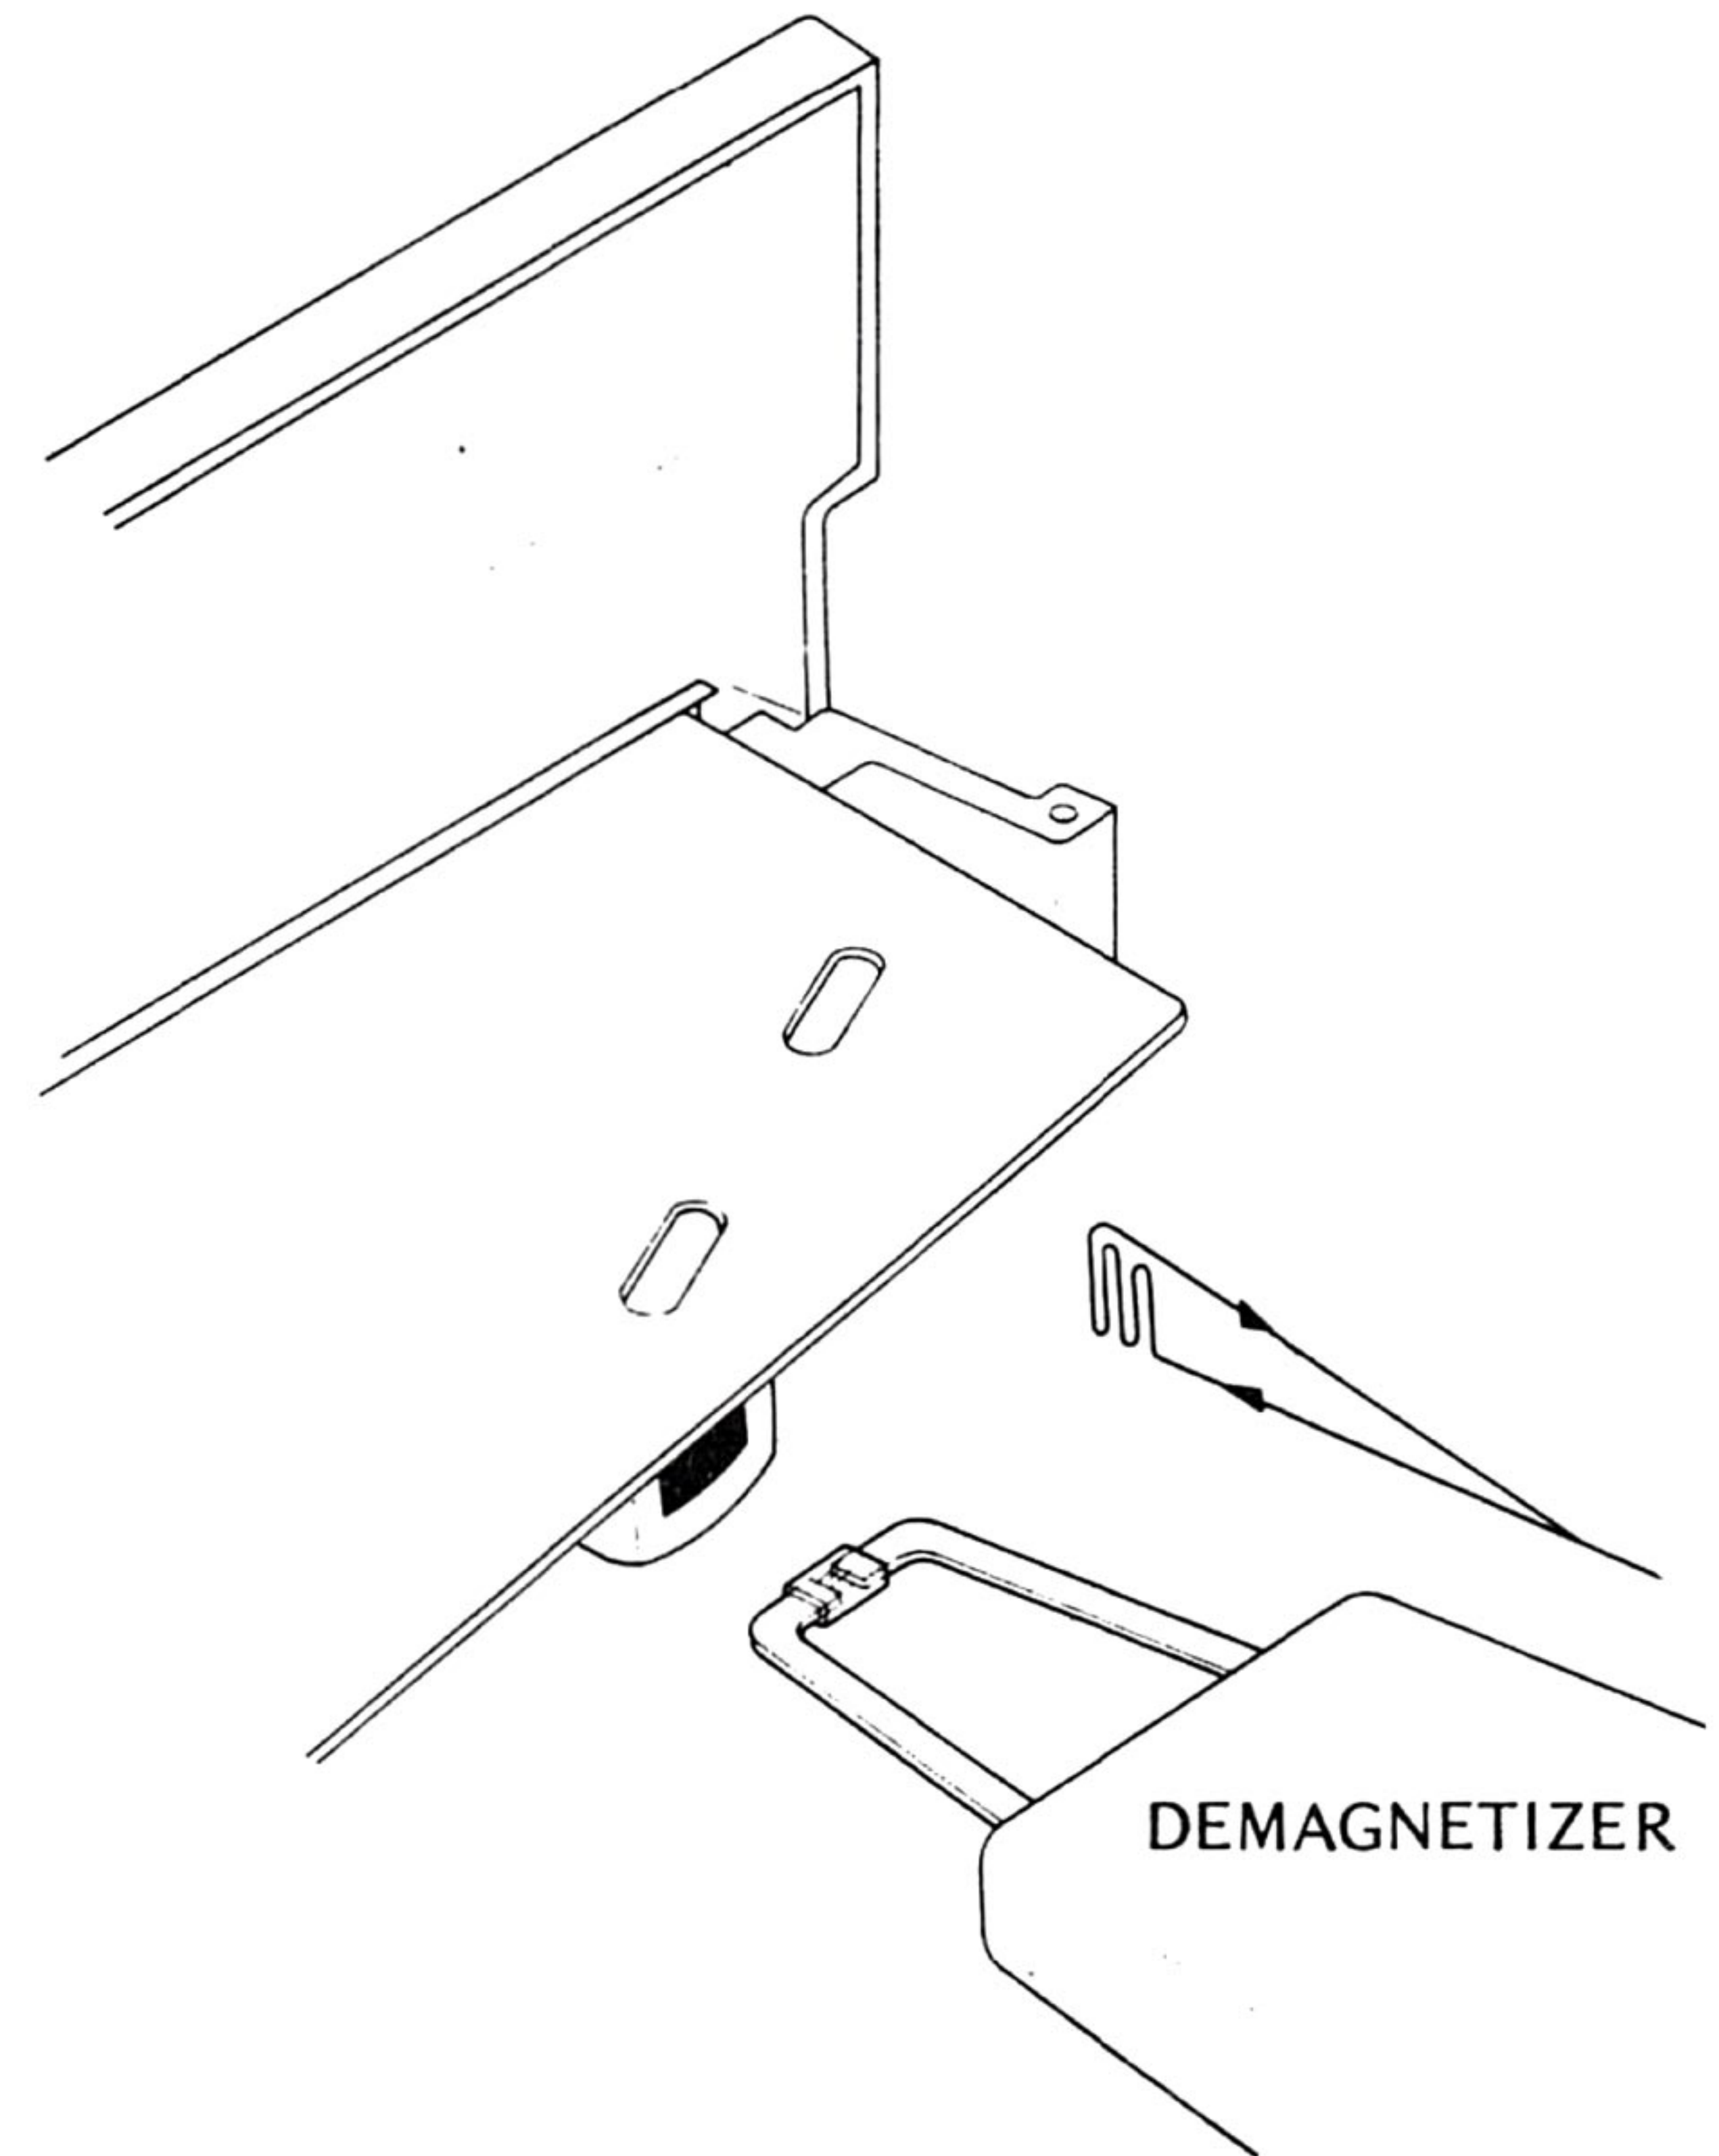

Fig. 1-2 Demagnetizing
5. Move the demagnetizer tips slowly close to the head, lightly touch the demagnetizer tips to the face of one head stack and slowly move the tips up and down the stack several times. Then slowly withdraw the demagnetizer as shown in Fig. 1-2.